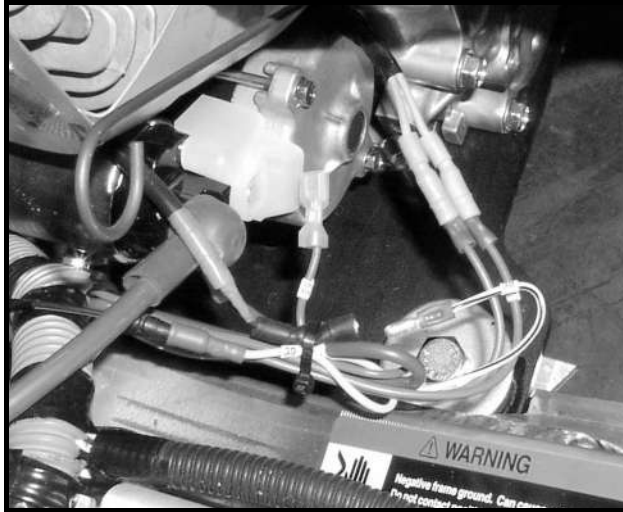

Figure 11a-23 Engine Kill Wire
3. Disconnect white/black wire bullet connector located near the starter (**Figure 11a-23, Page 11a-28**).
2. Disconnect the engine-kill white/black wire (w38) at the bullet connector located near the starter (**Figure 11a-23, Page 11a-28**). **See following NOTE.**